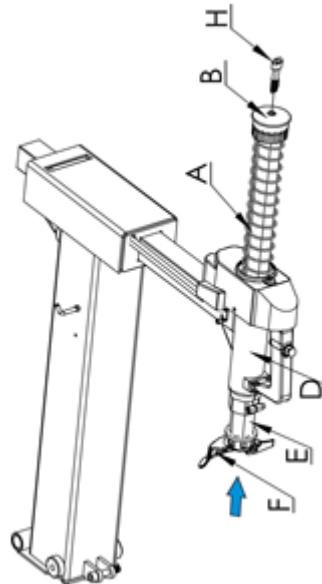

Fig. 7
- Remove the allenbolt (H, fig.7) and take off the knob (B, fig.7) and spring (A, fig.7).
- Tilt the column back and slide the (de)mountingarm (E, fig.7) through the opening in the horizontal arm. **Make sure the (de)mountinghead (F, fig.7) is in the right direction!**
- Place the spring (A, fig.7) over the (de)mountingarm and hold it in place with the knob (B, fig.7) now place the allenbolt (H, fig.7) and tighten it firmly.